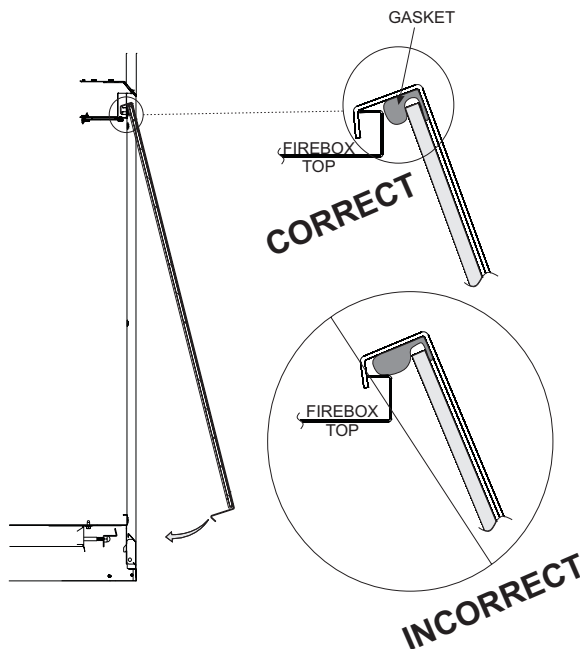

Figure 34
1. When installing the Glass Door assembly, make sure that the door top flange is hooked over the firebox top flange as illustrated in the "Correct" view in **Figure 34**.
**Important:** Do not allow the gasket across the top of the door to roll up on top of the firebox flange as shown in "Incorrect" view in **Figure 34**.